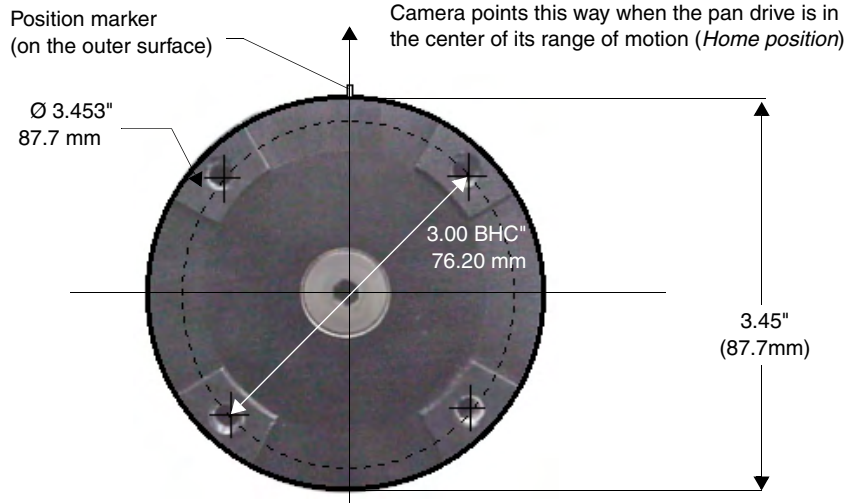

FIG. 12 Tilt Hub (Mounting plate) dimensions
3. Mount the PosiTrack unit to a flat surface by drilling four holes, according to the mounting-plate dimensions shown in FIG. 12. Secure the unit to the surface using four 1/4" x 20 machine bolts and lock washers. **Ensure that the external white position marker, on the pan drive hub, is inside the desired camera rotation range.**